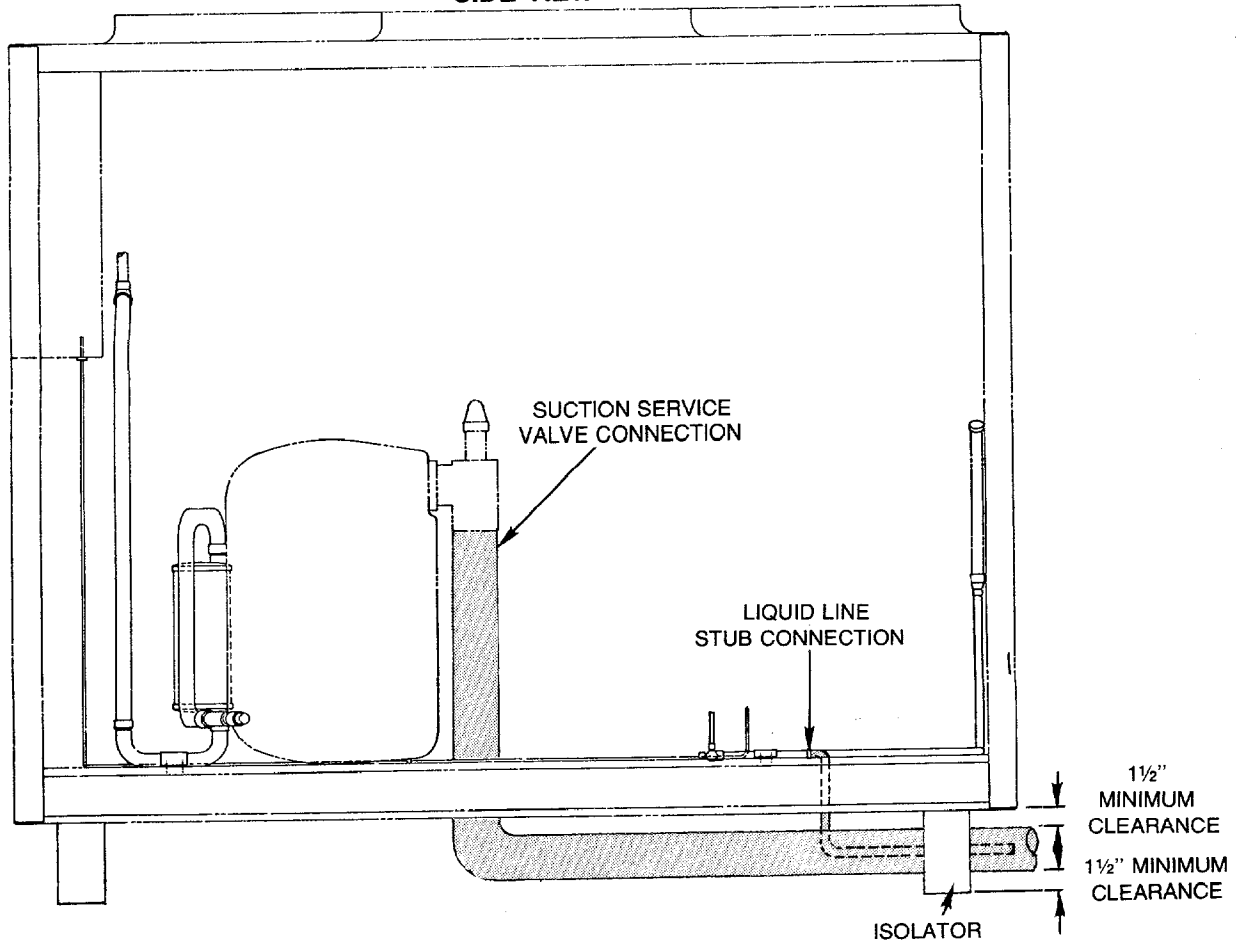
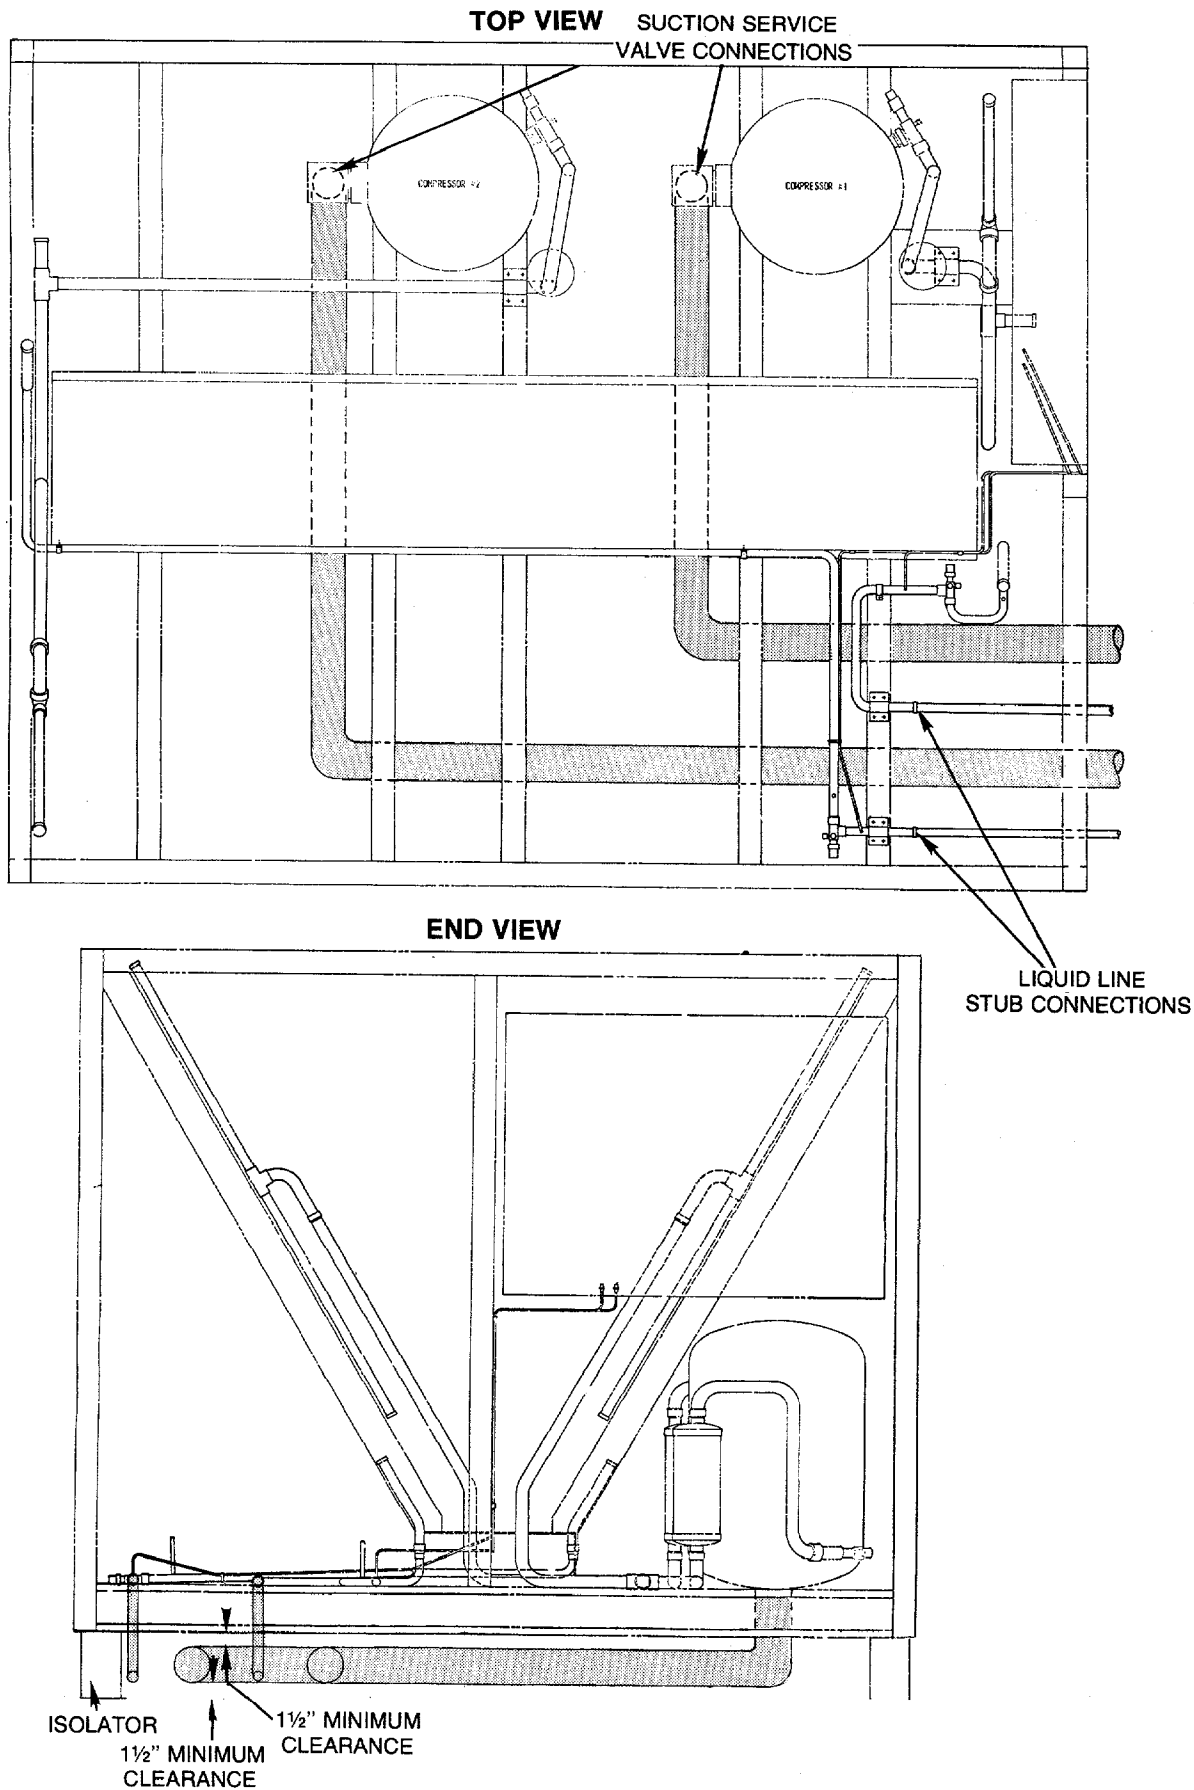

FIGURE 18 - Piping Installation: 20 Through 30-Ton Units With Isolators
FIGURE 19 - Piping Installation: 40 Through 60-Ton Units Equipped With Isolators
RAUB 20 to 60-ton condensing units have refrigerant connections at the liquid line stubs and at the compressor suction service valves. Figure 18 illustrates the connection points in the 20, 25 and 30-ton units and Figure 19 shows the points in the 40, 50 and 60-ton machines.
5. Proceed to pipe the liquid line(s) as shown in Figures 18 and 19.
8. Proceed to pipe the suction line(s) as shown in Figures 18 and 19.